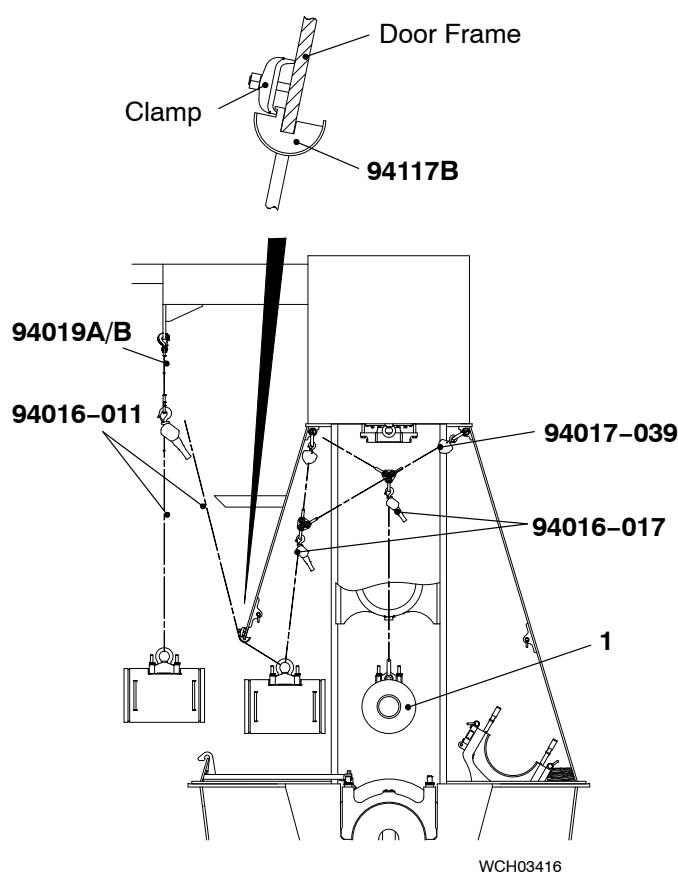

Fig. 7
- 43) Attach the deviation pipe (94117B, Fig. 7) to the door frame.
- 45) Attach the manual ratchet (94016-011) to the chain (94019A/B) and the eye bolt on the crosshead (1).
- 46) Turn the crosshead pin (1) 90°.
- 49) Remove the manual ratchets (94016-011, 94016-017) from the eye bolt on the crosshead pin (1).